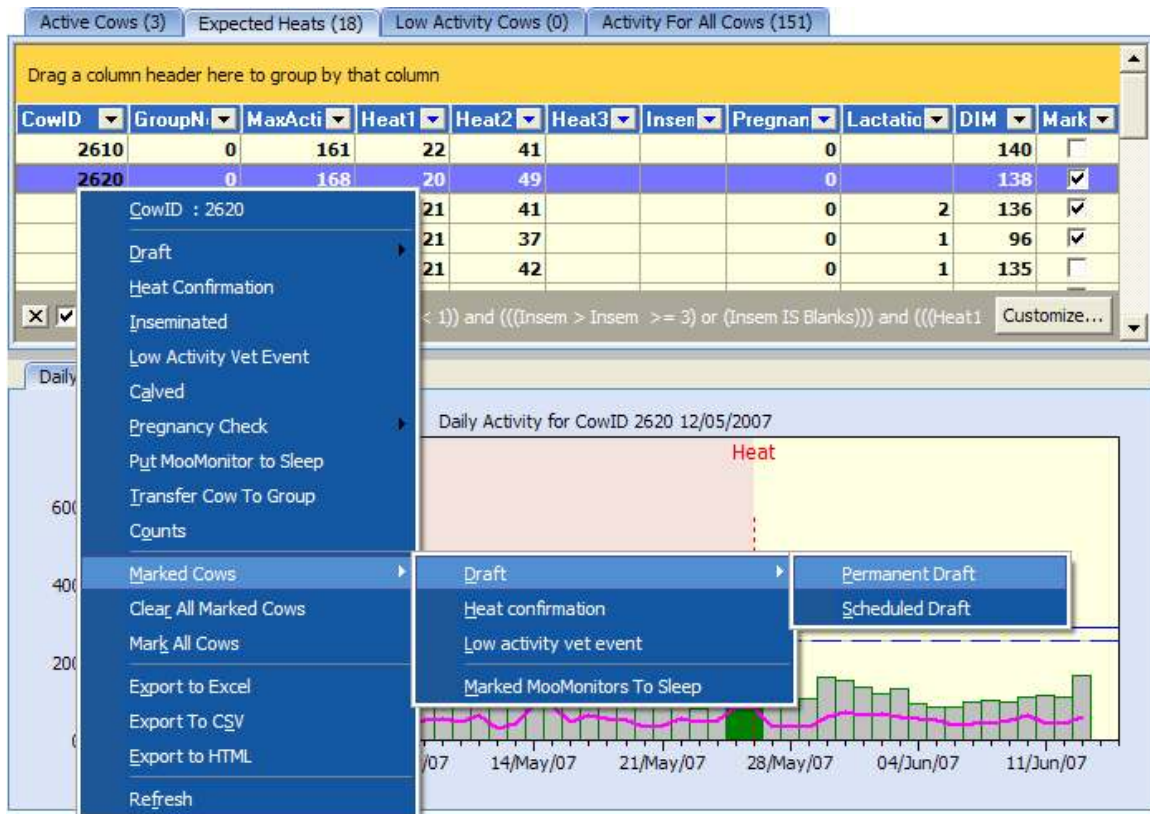

Figure 32 Right Click 'Marked Cows' options.
- Right click on any of the selected CowID's and select either the 'Permanent' or 'Scheduled' drafting option as shown in Figure 32 on the next page.